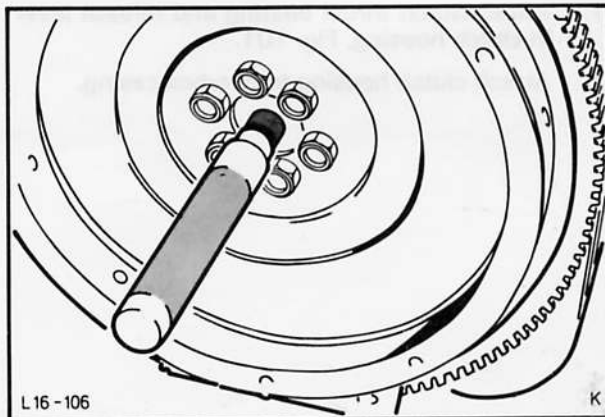

Fig. 103. Fit pilot bearing with Special Tool No. 21-044/21-080
2. Press new pilot bearing into crankshaft flange with Special Tool No. 21-044/21-080, Fig. 103.